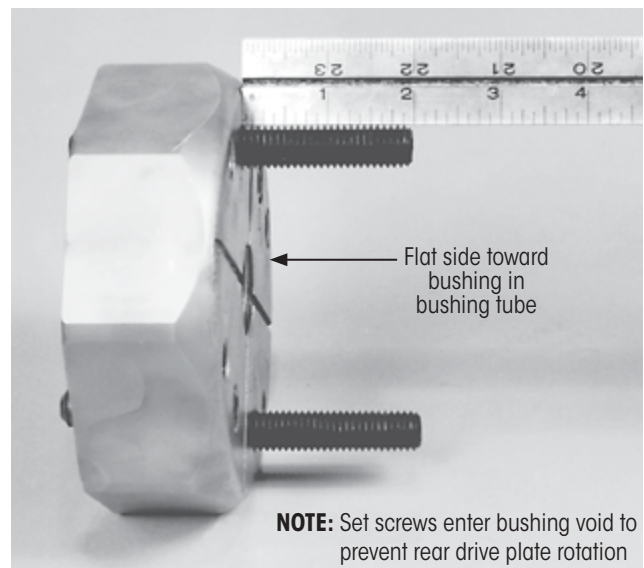
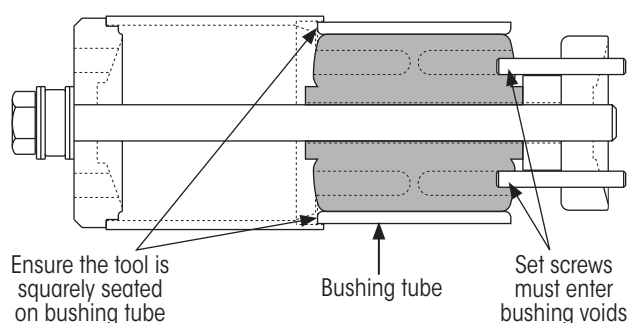
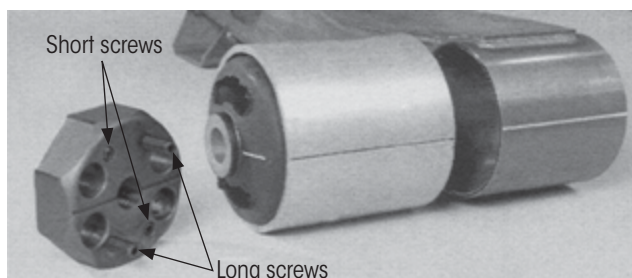

Figure 21: Checking set screw depth
Figure 23: Ensure tool is square to bushing tube
Figure 37: Wide bushing rear drive plate set screws
as shown in Figure 21. If necessary, use $\frac{1}{4}$ -inch Allen wrench to turn screws.
10. **Thread** the rear drive plate (flat side first, Figure 21) onto the hex head bolt (Figure 23). If using the wide bushing tool, the two set screws must enter the bushing voids (open areas) to prevent the rear drive plate from turning.
12. **Ensure** tool rests squarely on the bushing tube (Figure 23).
- A. **Wide Bushing Tool:** Thread all four set screws (two and four-inch) into the "HVY" holes in the concave side of the rear drive plate. The **two-inch set screws** should be flush with the flat side of the rear drive plate (Figure 37). The **four-inch set screws** should extend two inches beyond the flat side of the rear drive plate as shown in Figure 21 on page 11.